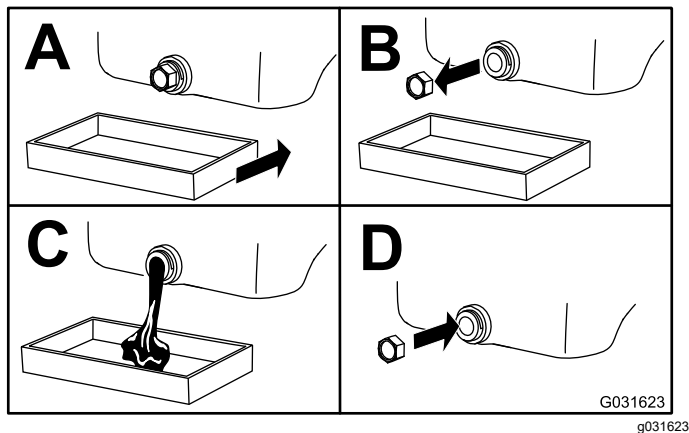

Figure 43
5. Change the engine oil as shown in Figure 43.